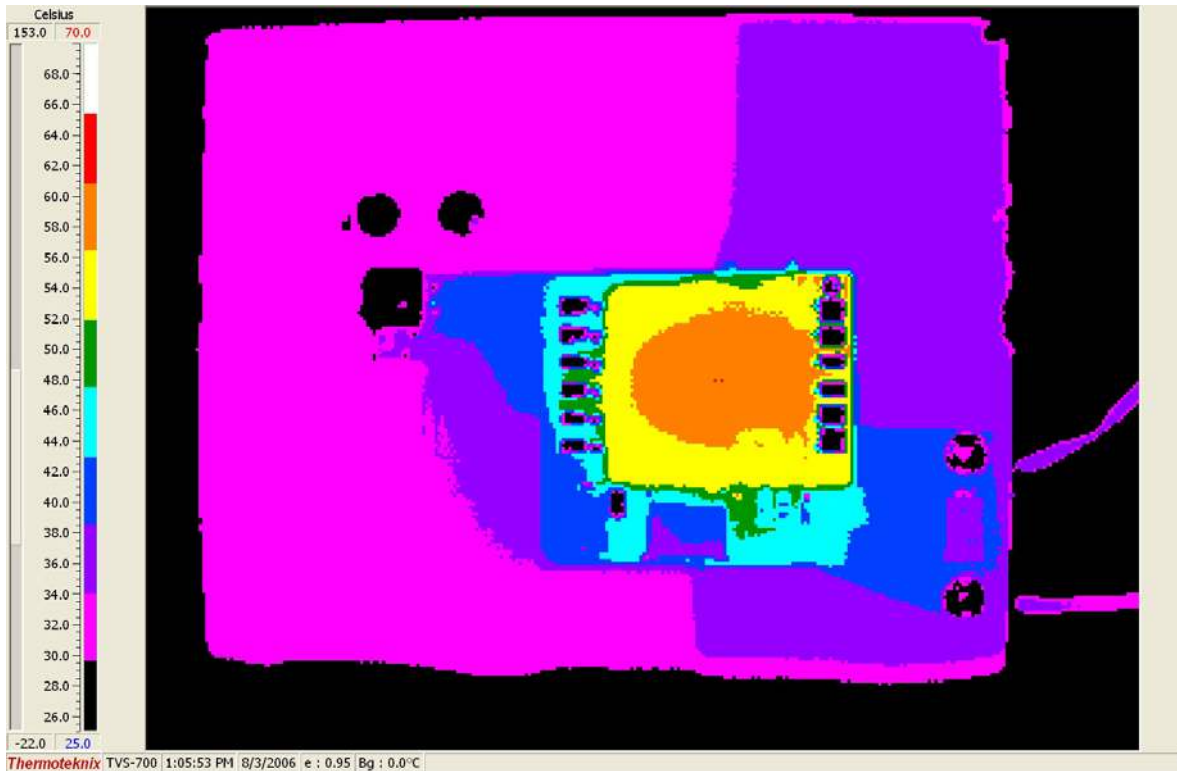

Figure 9. Temp Data (48Vin, 8A, no airflow – front)
The LT3825 controller exhibits a self-starting capability. When an input voltage is applied, a trickle charge resistor, R8, charges C10 (See Figure 9) to power VCC. Then, the IC begins a controlled soft-start of the output voltage. As this voltage begins to rise, VCC power is quickly taken over by T1, D2, and R7. When the soft-start period is over, the LT3825 then regulates output voltage by observing the pulses across the auxiliary winding of T1 during the flyback time. The Primary Gate drive (PG) and Synchronous Gate (SG) drive is then Pulse Width